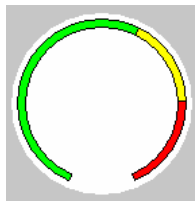

Figure 9.47: Bitmap Background for Custom Gauge
6. Paint green, yellow, and red between the circles and delete the unwanted parts as appropriate. You should now have something resembling **Figure 9.47**.